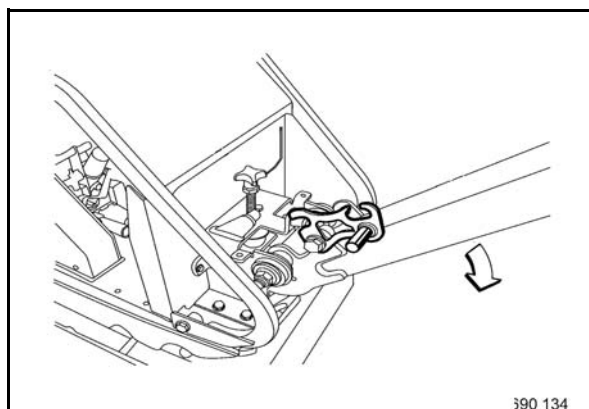

Fig. 10
- Pull locking lever (Fig. 10) up and fold the rod down, so that steering rod can swing freely.